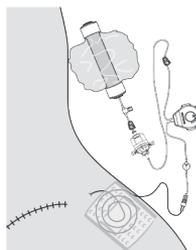

Figure 19
2. Infusion is complete when the pump is no longer inflated (the compression unit's body will feel hard when touched at the middle) (See figure 19).